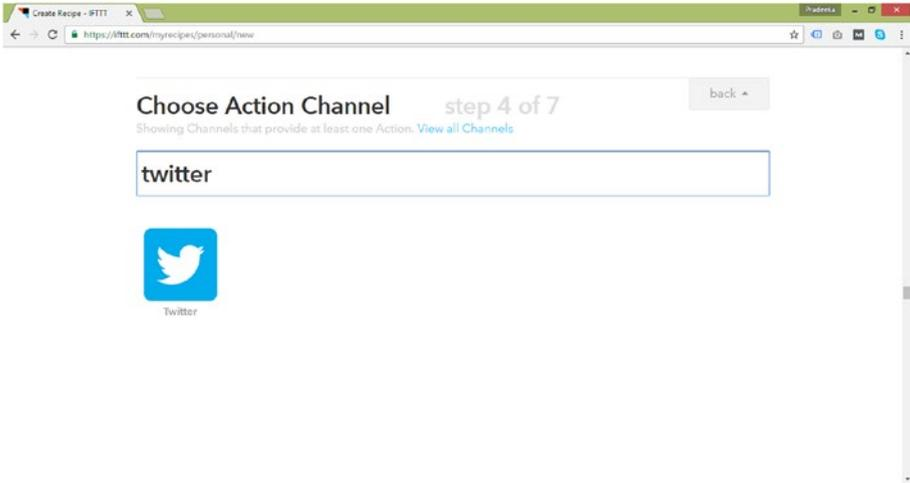

Figure 8-16. Choose an action channel
8. Search **Twitter** for an *action channel*. Then click the **Twitter** icon, as shown in Figure 8-16.